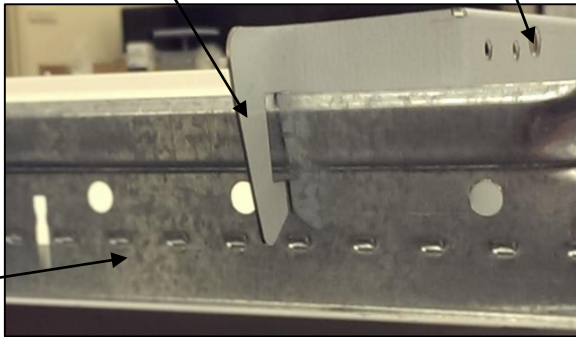

Figure 1: Built In T-Bar Clip
2. Bend the built in T-Bar clips over the T-Bar ceiling to secure the fixture to the T-Bar ceiling or use hanger wire hole as shown in Figure 1.